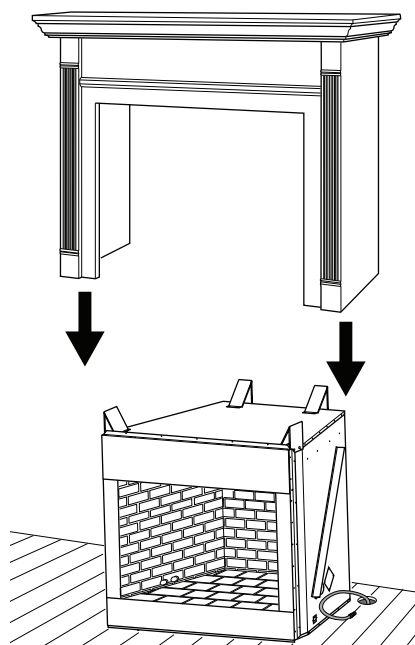

Figure 12 - Inserting Firebox Into Cabinet Mantel (Mantel May Vary From Illustration)
4. Carefully slide cabinet mantel over firebox. Be careful not to scratch firebox, cabinet mantel, flooring, etc., when installing (see Figure 12).